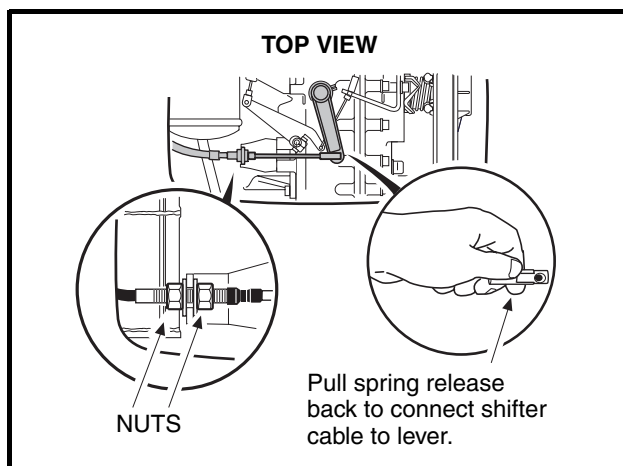

Figure 18-46 Connect Shifter Cable
- 22.4. Install the nut (3), washer (4), and bolt (7) on the Forward/Reverse shifter lever and tighten to 23 in lb (4.1 N·m).
23. Position the shifter cable in the shifter cable mounting bracket on the transaxle and tighten the mounting nuts to 22 ft-lb (29.8 N·m). Connect shifter cable rod end to the shifter arm (**Figure 18-46, Page 18-17**).